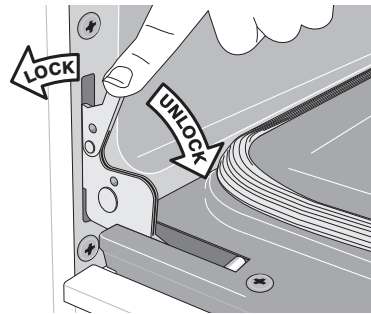

Figure 17: Hinge lock/unlock positions
2. Pull the door hinge locks on both left and right door hinges down from the oven frame completely towards the oven door (Figure 17). A tool such as a small flat-blade screwdriver may be required.
4. Push the door hinge locks up towards and into the oven frame on both left and right oven door hinges (Figure 17) to the locked position; then, close the oven door.